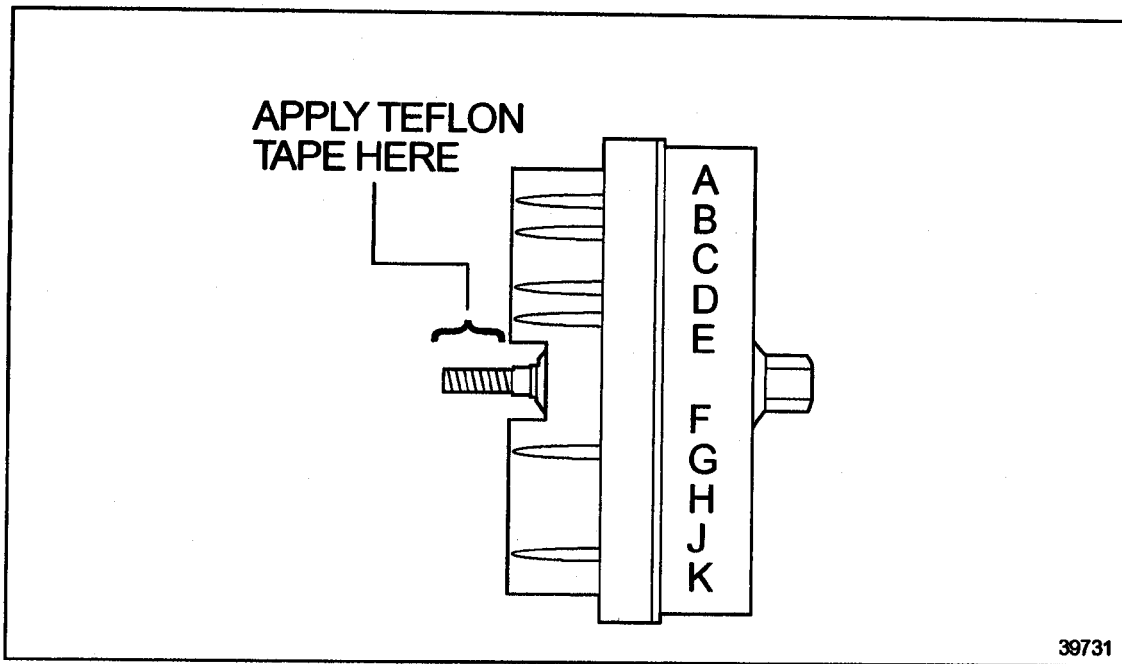

Figure 2-77 Application of Teflon Tape on Jack Screw
5. Apply Teflon® tape to the threads of the jack screws only on the two 30-pin connectors. Install the connectors in the ECM and torque the jack screws to 2.49–3.16 N·m (21–26 lb-in). See Figure 2-77.